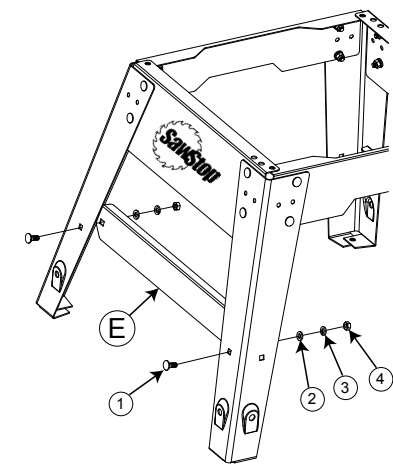

Fig. 6
6. Attach one of the short brackets marked E between the two front legs (see Fig. 6). Make sure the legs are in front of the bracket. Use two M8 x 20 carriage bolts, two M8 washers, two M8 lock washers, and two M8 hex nuts. Do not fully tighten the nuts. Repeat this process to attach the remaining short bracket E between the rear legs.